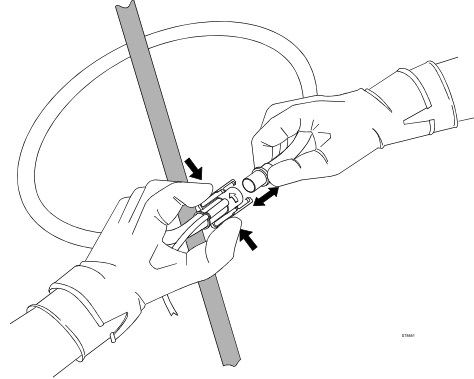

Figure 1. Connecting the flexible probe around the conductor.
2. Connect the flexible probe around the conductor (See Figure 1.)